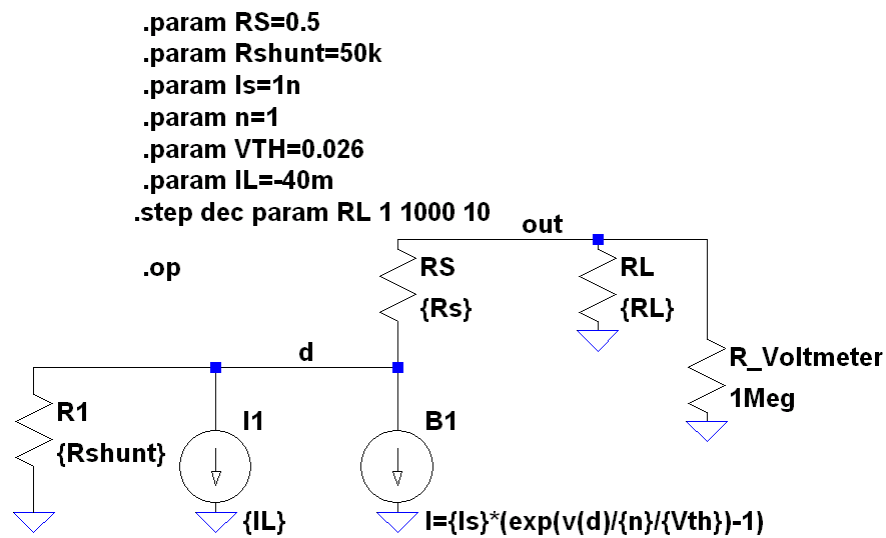

Figure 45: Solar Cell Model with programmable parameters.
- Build the solar cell model shown in Figure 45. It can be downloaded from here: